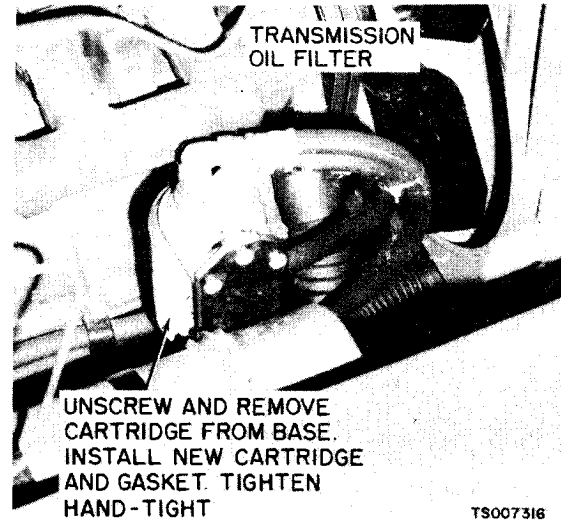

Figure 2-1. Preparation for Engine Removal.
(1) Remove the two screws attaching the hood to the hinge brackets and remove the hood.
(2) Drain the cooling system and the engine crankcase (refer to TM 10-3930-633-12).
(3) Disconnect battery cable, and remove ground strap at engine connection point.
(4) Remove fan, fan belts, water pump pulley and upper and lower radiator hoses (see TM 10-3930-633-12).
(5) Remove radiator (see TM 10-3930-633-12).
(6) Disconnect the accelerator and choke cables from carburetor and anchor brackets on engine (refer to TM 10-3930-633-12). Disconnect hose at fuel pump.
(7) Remove air cleaner ductwork from carburetor (see TM 10-3930-633-12).
(8) Disconnect exhaust pipe from manifold (see TM 10-3930-633-12).
(9) Remove transmission oil filter (see figure 2-1) from bracket and position filter and hoses out of the way of engine removal. Remove clips from transmission oil lines.
(5) Install frame bolt and nut through engine front support. Torque to 35 to 50 ft/lbs.
(6) Position the transmission oil filter assembly on the bracket as shown in figure 2-1, and install the three screws to secure filter to bracket. Install clips over oil lines on engine block.
(7) Install the starter (see TM 10-3930-633-12). Connect starter cables, and install the transmission filler tube bracket.
(8) Attach the exhaust pipe to the manifold flange. Torque the nuts to 25 to 35 ft/lbs.
(9) Connect the engine ground strap.
(10) Connect the vacuum line at the intake manifold. Connect the choke cable and accelerator cables to the carburetor and anchor brackets. Be sure the retracting spring is properly installed.
(11) Connect the engine wiring harness at the coil, vacuum switch, coolant temperature sender, and oil pressure sender.
(12) Install the alternator (see TM 10-3930-633-12) but do not tighten mounting bolts.
(13) Install radiator (see TM 10-3930-633-12). Connect oil cooler lines and install upper and lower radiator hoses.
(14) Install fan pulley, fan belts and fan. Torque fan bolts to 40 to 45 ft/lbs.
(15) Adjust fan belt tension and tighten alternator mounting bolts (see TM 10-3930-633-12).
(16) Install air cleaner ductwork. Connect hose to fuel pump.